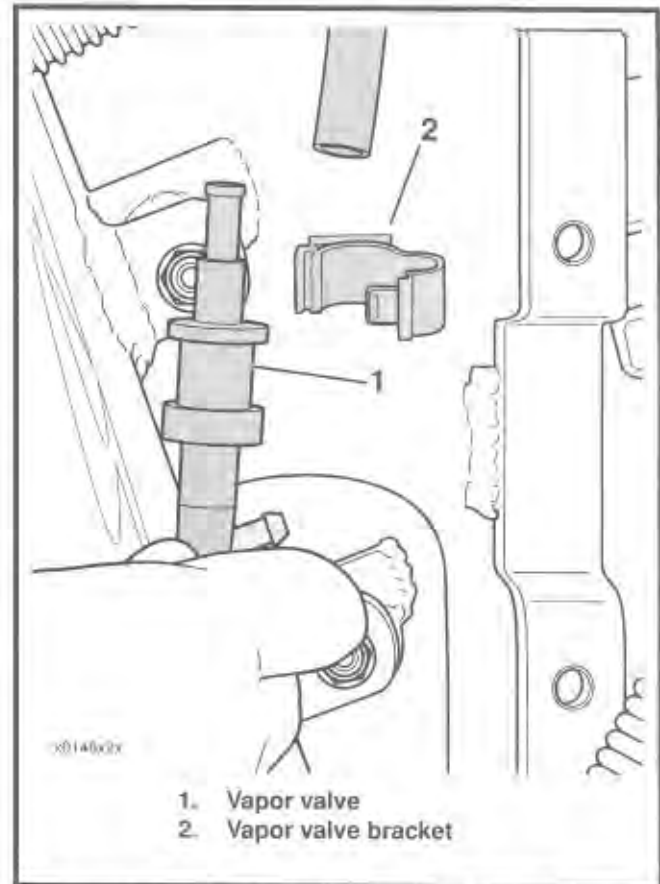

Figure 3-43. Vapor Valve and Bracket
7. See Figure 3-43. Remove vapor valve assembly from inboard side of oil tank. Insert thin blade of screwdriver into slot of vapor valve bracket. Turn screwdriver gently to unsnap clip. Remove vapor valve body from bracket. Remove hose connection from neck of vapor valve. (On California models, remove carbon canister-to-carburetor purge hose from groove of vapor valve bracket.)
6. See Figure 3-43. Hold fuel tank vapor valve in an upright position with the long necked end at the top. Insert neck of vapor valve into hose until hose end contacts shoulder. Position body of vapor valve in bracket. Snap bracket closed. (On California models, install carbon